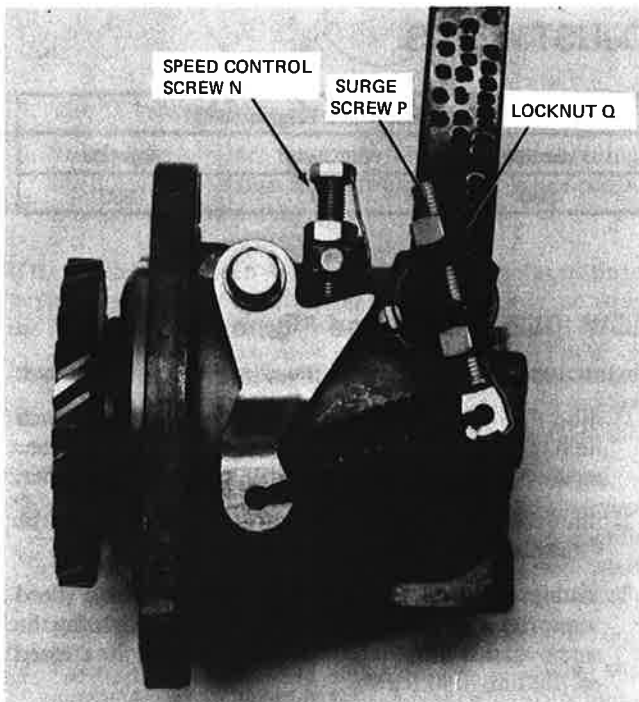

Figure 4 — Governor Sensitivity Adjustment.
HIGH IDLE SPEED (See Figure 4)
Refer to Figure 4. The surge screw (P) is the sensitivity adjustment on the Pierce governor. To change this adjustment, loosen one lock nut (Q) and tighten the other. This changes the position of the surge screw. Moving the screw down or to the right, reduces surge but increases speed drop. Moving the screw up or to the left, increases surge but reduces the speed drop.